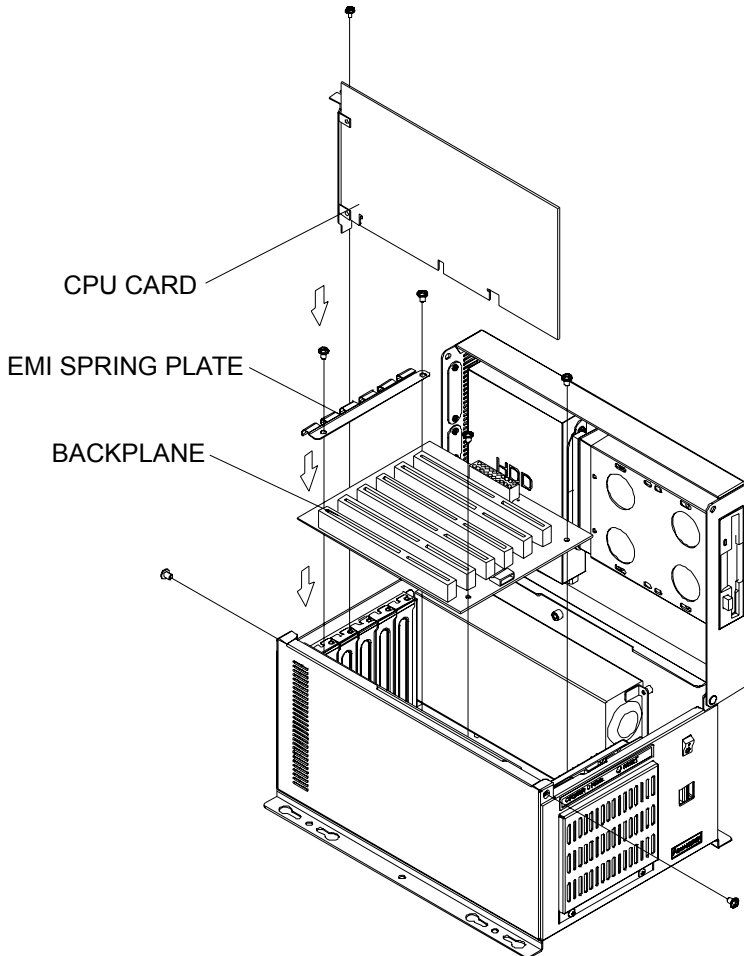

Figure 2.2: Installing a backplane & CPU card
IPC-6806S accepts a 6-slot passive backplane to support up to six half-sized cards. To install a backplane and a CPU card, refer to Figure 2-2 and proceed as follows:
1. Referring to Figure 2-2, carefully place the passive backplane and EMI spring plate in the IPC-6806S chassis and fix it with screws. For the bare IPC-6806S chassis, the EMI spring plate is stored in the accessory box.